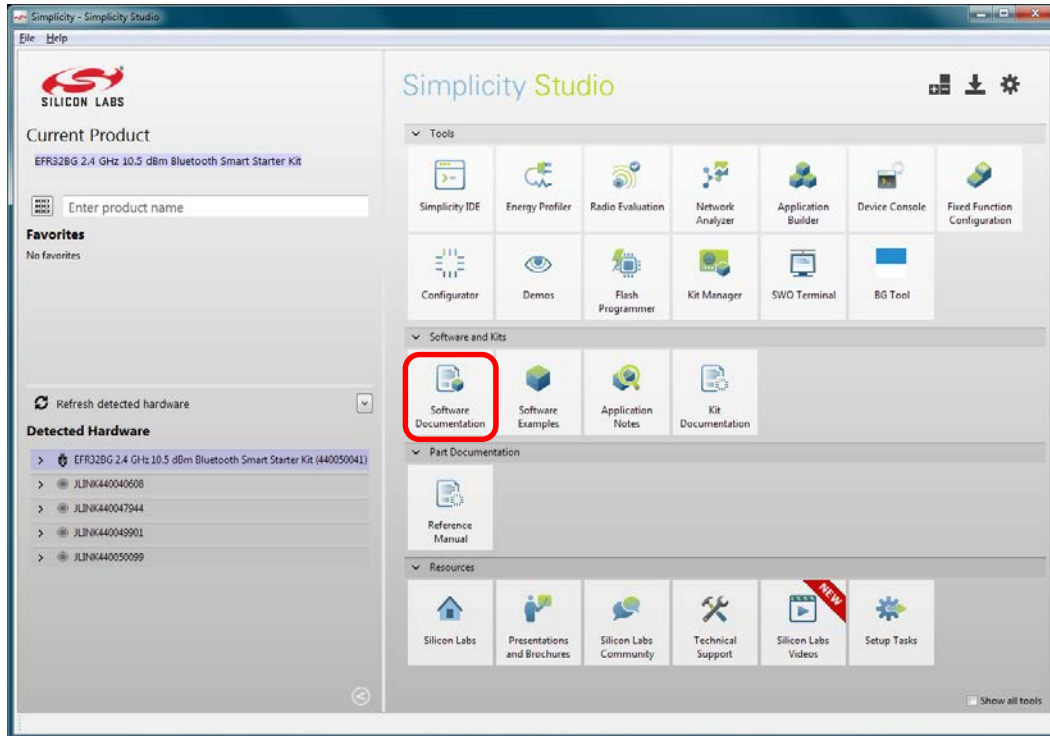
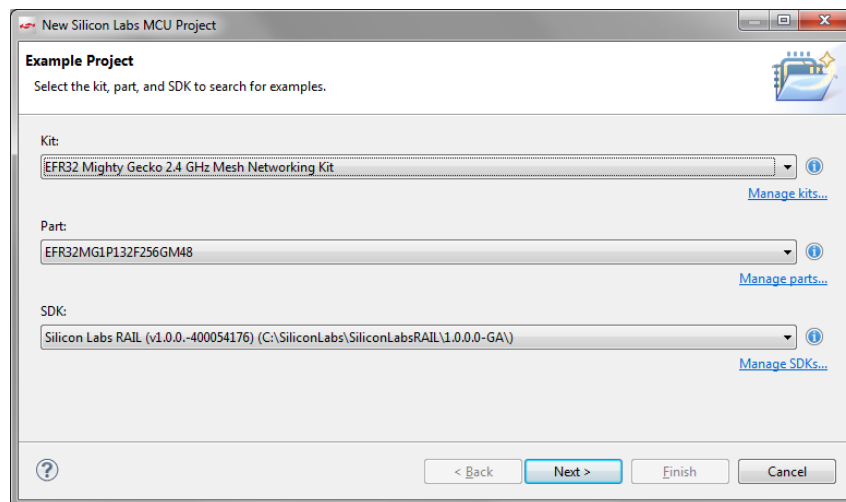

Figure 15. Software Examples Tile
Figure 16. New Example Project Dialog
1. In the Simplicity perspective, click the Software Examples tile (Figure 15).
2. In the New Example dialog (Figure 16), enter the kit, part, and SDK. Kit and part will be filled by Simplicity Studio if the hardware was detected and displayed in the Simplicity perspective (Figure 15).